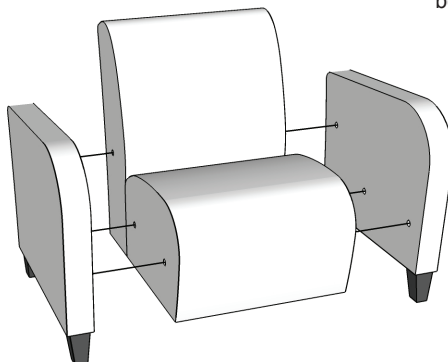

Figure 3
2. Attach arms to seat and back using 2" bolts and washers into threaded inserts, as shown in figures 3 and 4. Start each bolt first, until all have caught a few threads, then finger tighten only.